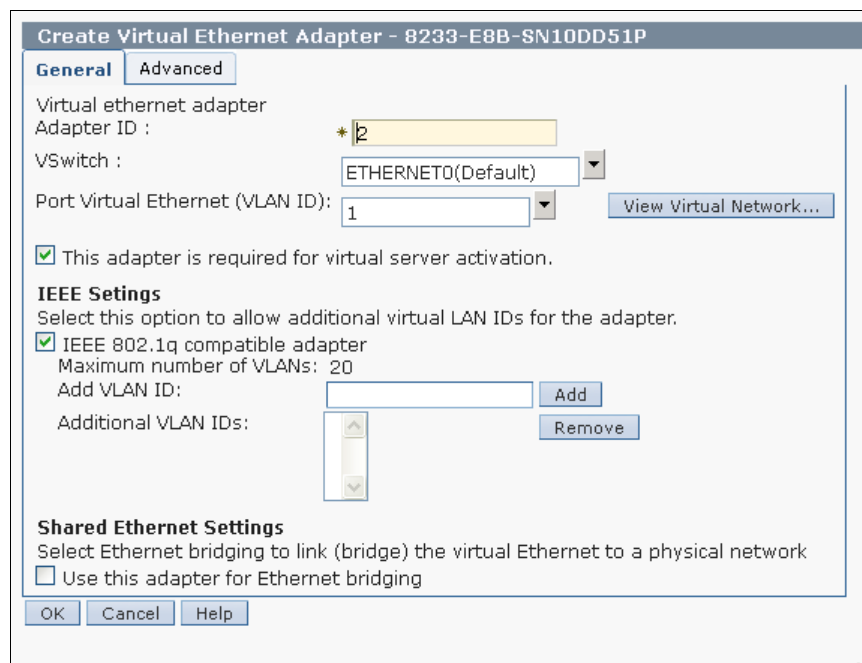

Figure 4-32 Create virtual Ethernet adapter
- If required, add more VLAN (IEEE 802.1q compatible adapter) tags, as shown in Figure 4-32.